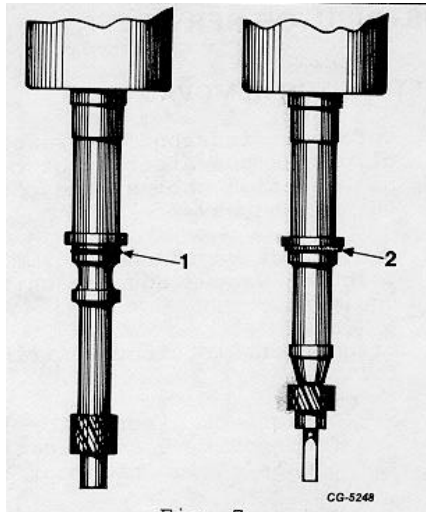

Fig. 7.
7. Carefully withdraw distributor from engine. Do not lose gasket or "O" ring. See Figure 7 for gasket or "O" ring location on distributor.